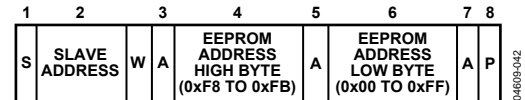

Figure 42. Setting an EEPROM Address
- To set up a 2-byte EEPROM address for a subsequent read, write, block read, block write, or page erase. In this case, the command byte is the high byte of EEPROM Address 0xF8 to EEPROM Address 0xFB. The only data byte is the low byte of the EEPROM address, as shown in Figure 42.